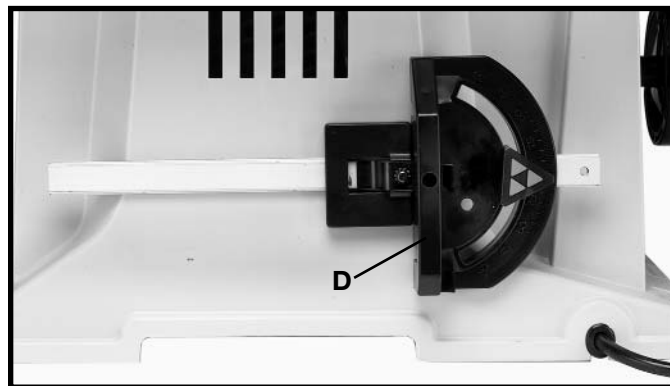

Fig. 23
4. Fig. 23, illustrates the miter gage (D) inserted into the miter gage holder when not in use.